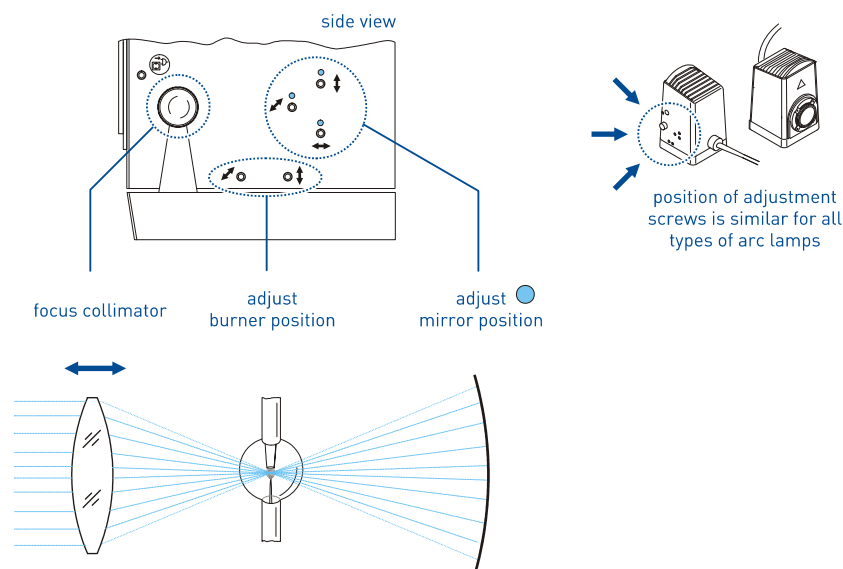
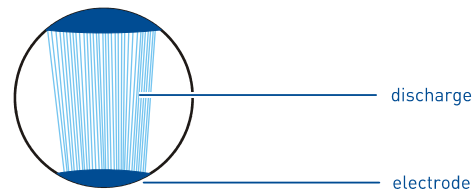

figure 55 Arc lamp adjustment screws
figure 61 Approximate view of the burner electrodes after the fine adjustment
- Locate the adjustment screws at the lamp house and refer to figure 55.
- Using the adjustment screws at the lamp house, both the electrodes and their reflected image need to be adjusted symmetrically to the (round) objective pupil that is visible on the monitor. The principle of the adjustment is similar to figure 55 and figure 56 on page 85ff. The image will approximately look like figure 61, although the contrast may be insufficient to clearly distinguish the electrodes from the discharge and the reflected image from the electrodes.